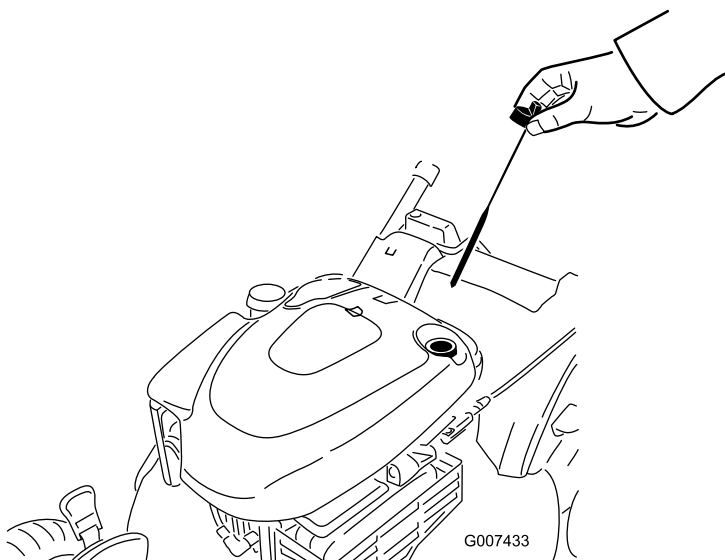

Figure 32
6. Remove the dipstick from the oil-fill tube (Figure 32).